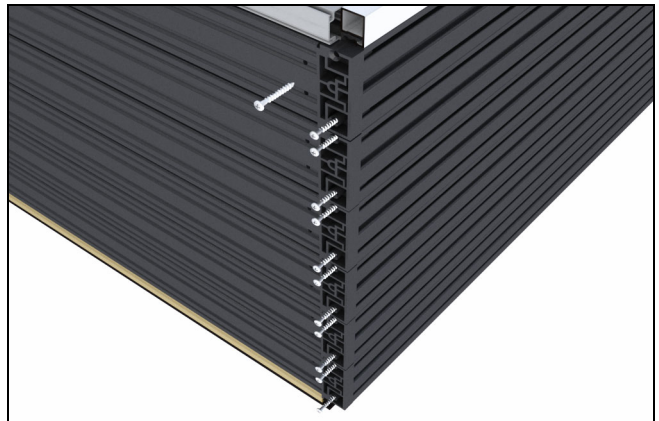

Figure 19
6. Align side jamb to sill by sliding corner keys into sill. Fasten side jamb and sill through corner keys using two #8 x 1 3/4" pan head screws per key. See figure 19.